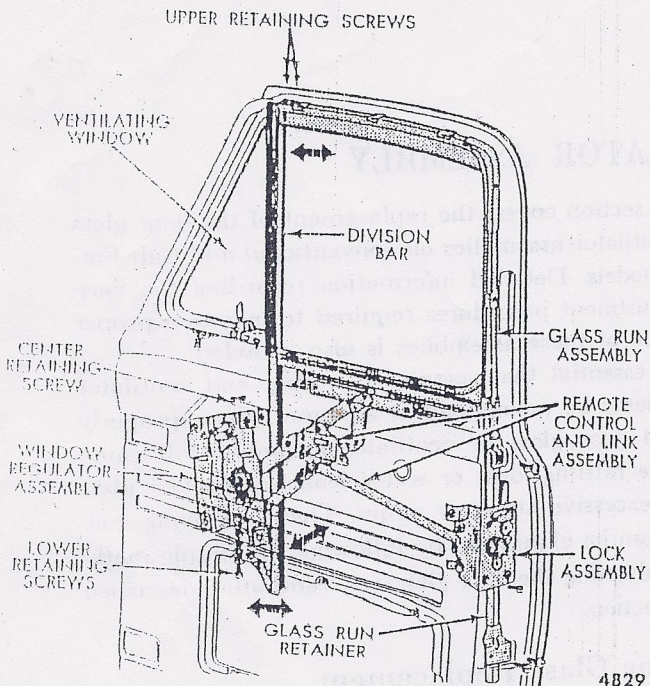

Fig. 27—Door Interior
(1) **DIVISION BAR ADJUSTMENT.** The division bar adjustments are located at the upper, center, and lower ends (fig. 27).
(2) **DIVISION BAR REPLACEMENT.** Remove the door trim panel (if so equipped). Remove the access cover plate. Remove the division bar retaining screws (fig. 27). Remove the window regulator assembly and glass. Lower the division bar, and remove it through the access opening as shown in fig. 28.